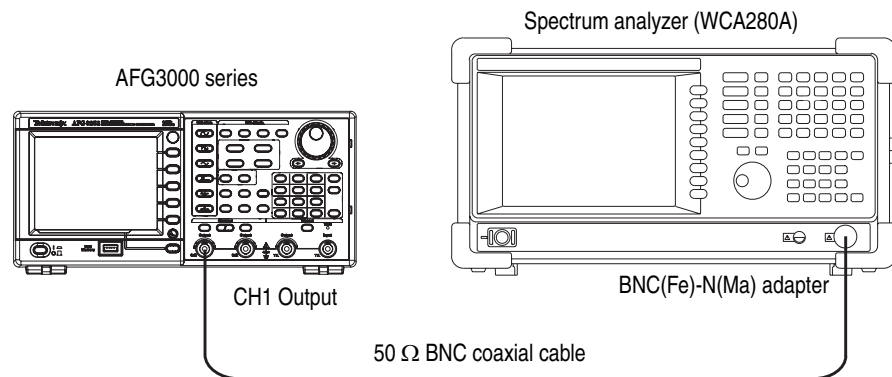

Figure 5-4: Spurious adjustment
1. Connect the arbitrary/function generator to the spectrum analyzer as shown in Figure 5-4.